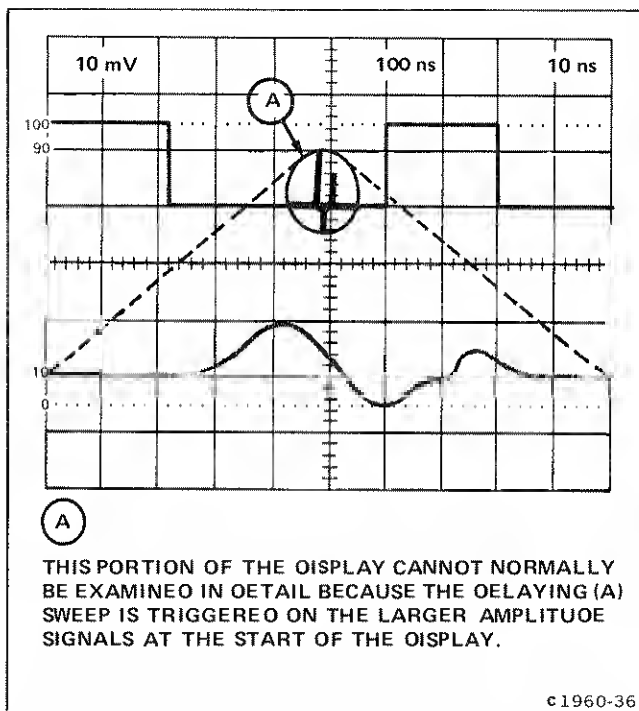

Figure 2-9. Magnifying a selected segment of the delaying (A) sweep in the delay-time mode with mainframe alternate or chopped horizontal operation.
5. To magnify a selected segment of the delaying (A) sweep waveform and determine apparent magnification in the delay-time mode:
- Set the appropriate triggering, position, deflection-factor, and sweep-rate controls for the desired dual-trace display. See the example in Figure 2-9.
c. Turn the DELAY TIME control to position the intensified zone to the portion of the delaying (A) sweep waveform to be magnified.
d. Set the delayed (B) sweep unit sweep rate to select the desired duration of the magnified display as indicated by the length of the intensified zone.
e. Observe the magnified display on the delayed (B) sweep. See Figure 2-9.
*For a better look at the delayed (B) sweep waveform, set the mainframe to the B horizontal mode and the amplifier plug-in unit deflection factor to increase the display amplitude. Do not change the 7B15 TIME/DIV setting.*
f. Determine apparent magnification by dividing the 7B15 TIME/DIV setting by the delayed (B) sweep unit sweep-rate setting.
Example: The apparent magnification of the delayed (B) sweep shown in Figure 2-9 with a 7B15 TIME/DIV setting of .1 millisecond and a delayed (B) sweep unit sweep-rate setting of 1 microsecond is: